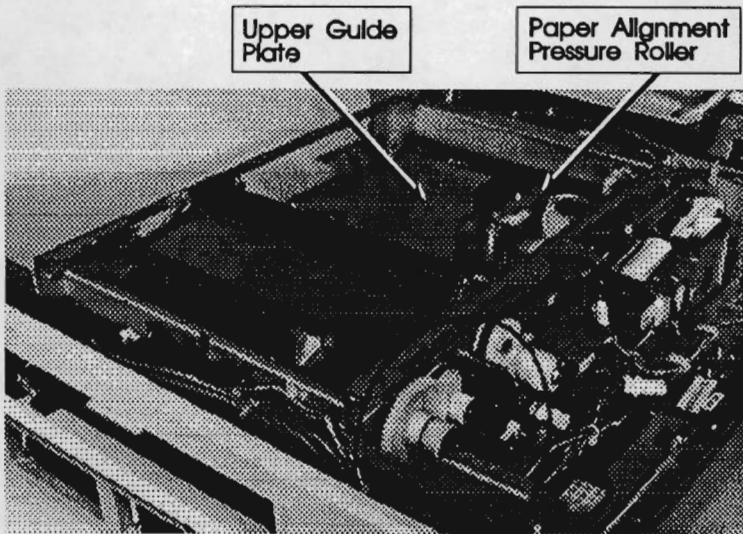

Figure 6-47. Paper Alignment Pressure Roller
6. Open the door on the left side of the printer (see Figure 6-47).